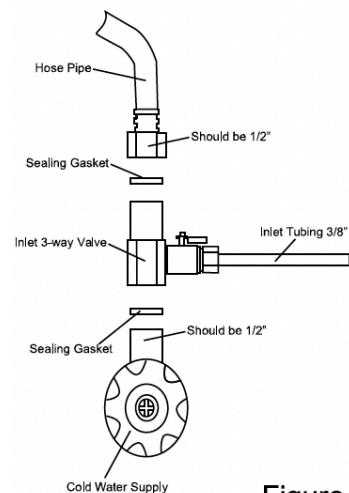

Figure 2
1. Turn off the water supply, disconnect the existing pipe. Take the inlet 3-way valve out from the accessory bag, install it on the pipe line as the Figure 2. Note: Additional pipework adjustments may be required.